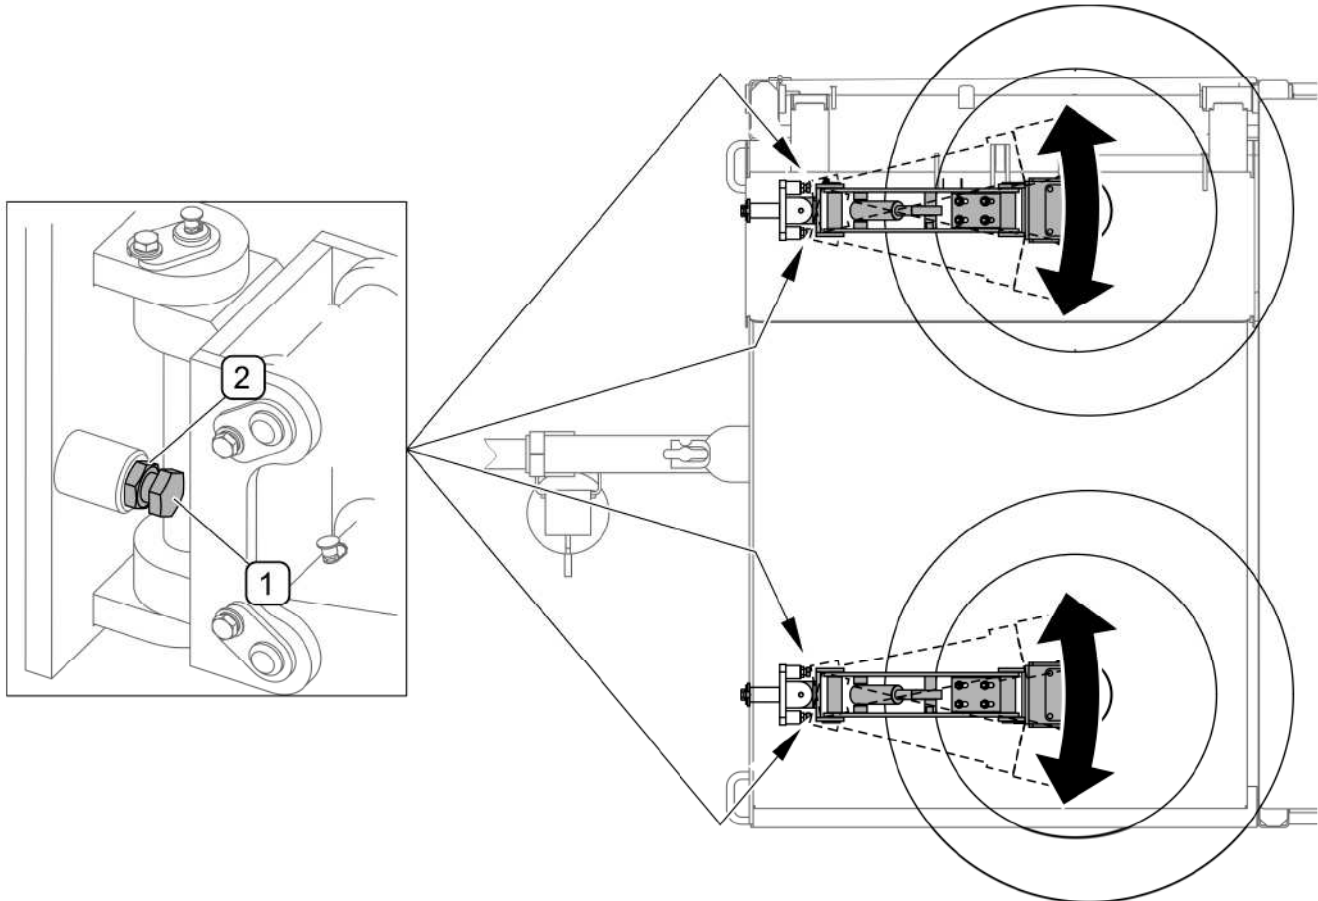

FIG. 5.6 Adjustment of disc brush side tipping
(1) - side tilt bumper; (2) - counter nut
During sweeper operation, the right and left disk brushes (FIG. 5.6) move to the outside of the machine. Range of horizontal movement of brushes is limited with bumper (1). There are two limiting bumpers in each of the roller brushes. In order to change position of bumpers (1), loosen counter nut (2) and then, screw in or screw out the bumper (1). After adjustment, tighten counter nut (2). Right brush and left brush can be set depending on a required sweeping width.